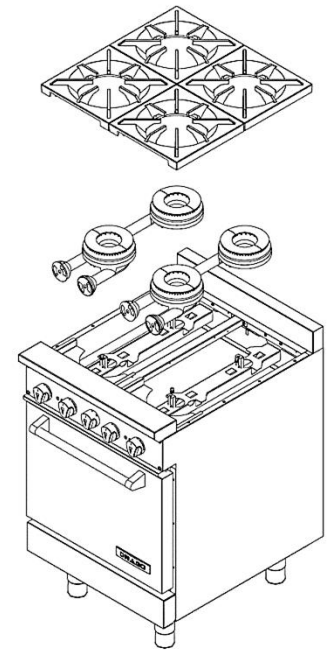

Fig.1
1. Remove grills and burners from equipment (Fig. 1).